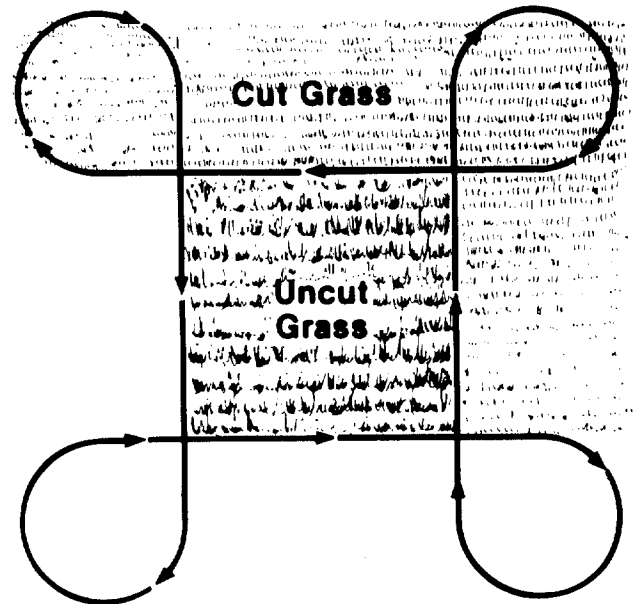

Figure 47
4. Follow the mowing procedure shown in Figure 47.